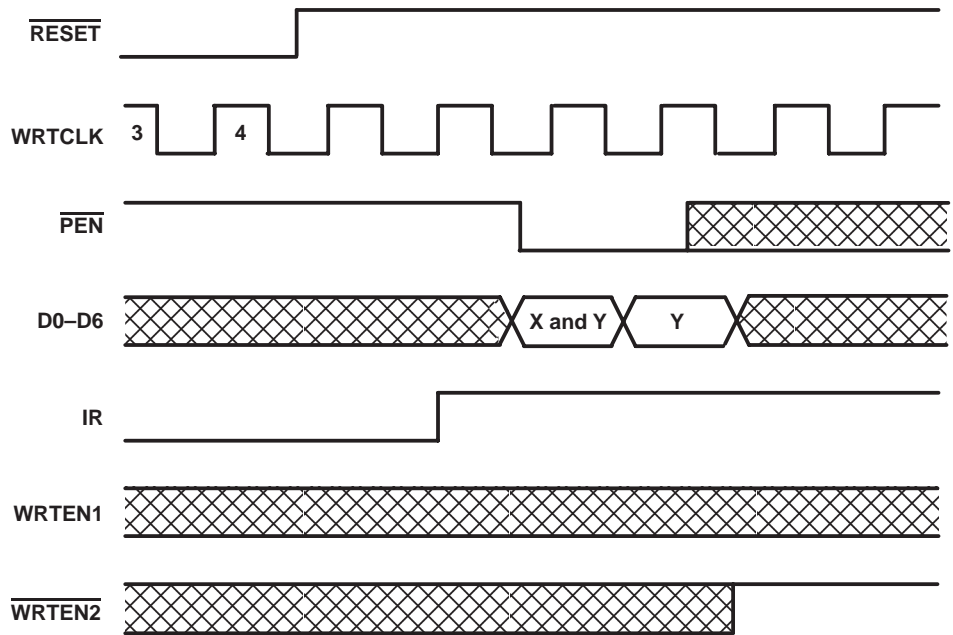

Figure 4. Programming X and Y Separately
Program enable ($\overline{\text{PEN}}$) should be held high throughout the reset cycle. $\overline{\text{PEN}}$ can be brought low only when IR is high and WRTCLK is low. On the following low-to-high transition of WRTCLK, the binary value on D0–D6 is stored as the almost-empty offset value (X) and the almost-full offset value (Y). Holding $\overline{\text{PEN}}$ low for another low-to-high transition of WRTCLK reprograms Y to the binary value on D0–D6 at the time of the second WRTCLK low-to-high transition. When the offsets are being programmed, writes to the FIFO memory are disabled regardless of the state of the write enables (WRTEN1, WRTEN2). A maximum value of 127 can be programmed for either X or Y (see Figure 4). To use the default values of X = Y = 32, $\overline{\text{PEN}}$ must be held high.